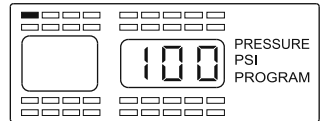
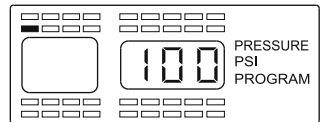

Figure 2-7
Figure 2-8
10. Once you have completed the sensor programming sequence for all tires, press the **PROG** button momentarily to move to the next step, this will be the Base Line Pressure Programming. The monitor will display as shown in Figure 2-7. If you are completely done with all of the programming operations you can press the **PROG** button for 5 seconds and the monitor will return to the normal mode of operation. This can be done at the end of any section of the program mode when the programming is completed.
NOTE: To enter directly into this program mode you will need to press the **PROG** button for 5 seconds until the “PROGRAM” is displayed. Then press the **PROG** button again briefly to enter this mode (see Figure 2-7 for screen display).
The monitor should now be displaying the wheel positions available to program, the words PRESSURE, the unit of measure (PSI, Bar, or kPa) and PROGRAM will be displayed as well as the baseline pressure for the selected wheel position (see Figure 2-7). The positions that already have sensors programmed to the monitor will be highlighted at this time (see Figure 2-8). You can program the air pressure from 5 PSI to 188 PSI, depending on your needs. Each wheel position can be set with a different baseline air pressure if this is what is needed. The monitor has been pre-programmed for 100 PSI at